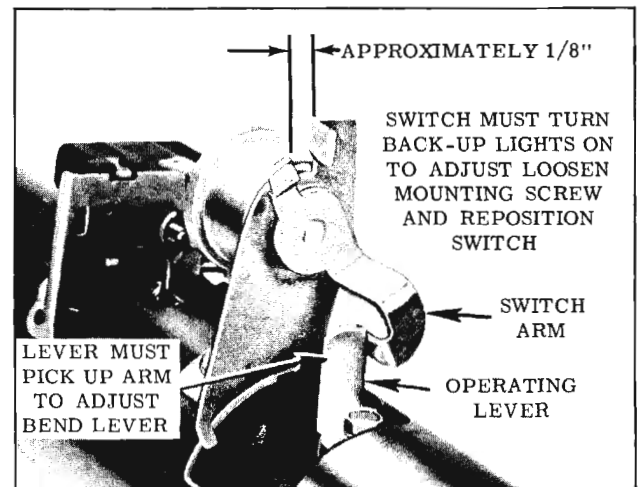

Fig. 13-122 Back-Up Lamp Switch (Rev. Pos.)
2. Position adjustable operating lever so that it operates switch in reverse only. (Fig. 13-122)
2. Place transmission shift lever in reverse. Move switch clockwise until there is approximately 1/8" gap between switch lever and stop. (Fig. 13-122) Tighten mounting screw.